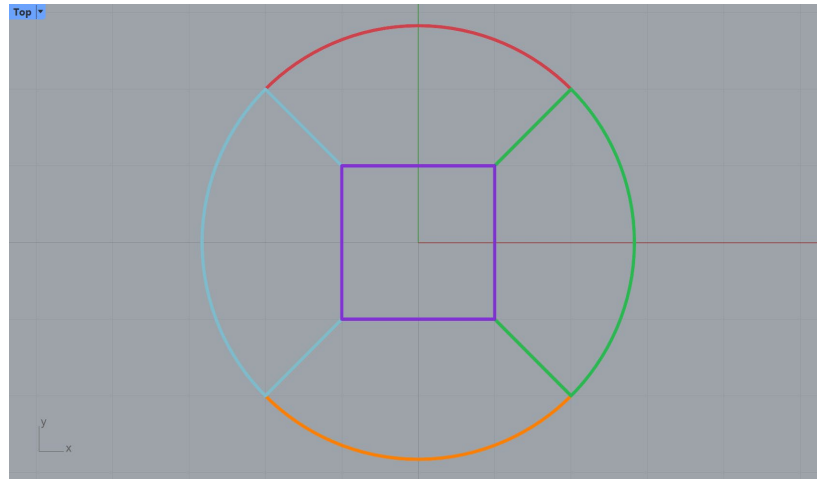

Figure 7: Five colorized polylines (some edges overlap).
8. Select all 5 objects and type **_ColorizeObjects** in the command prompt (or click on the  icon in the *Griddle* toolbar). The command will assign a random color to each object (Figure 7).